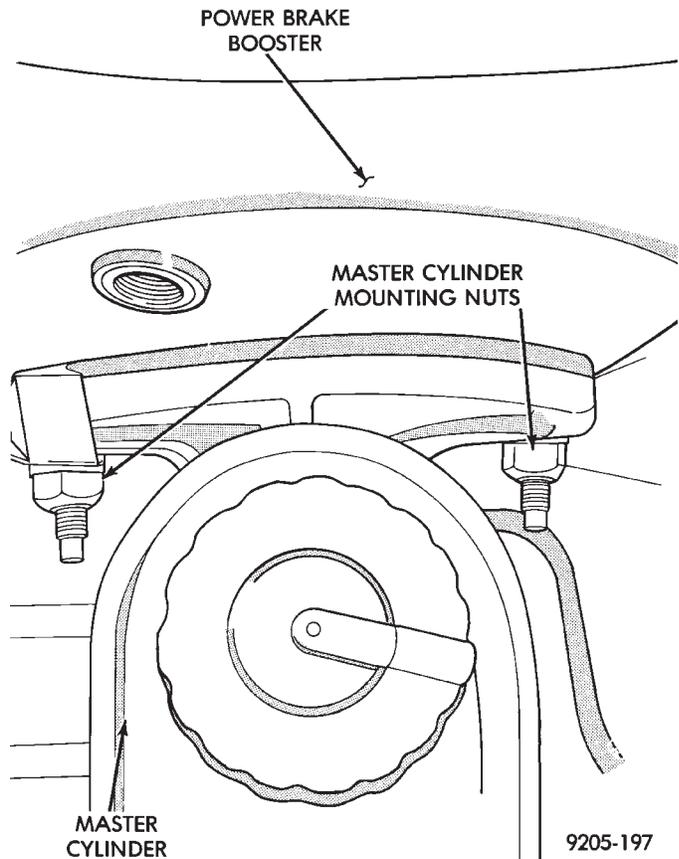

Fig. 4 Master Cylinder Mounting
(1) Remove the 2 nuts (Fig. 4) attaching master cylinder assembly to power brake unit.